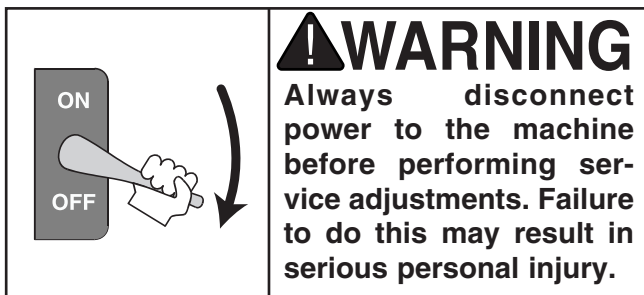

Figure 23. Motor mount adjustment bolts.
1. Thread in the motor mount adjustment bolts (**Figure 23**) to loosen the V-belt. Unthread the adjustment bolts to tighten the V-belt.